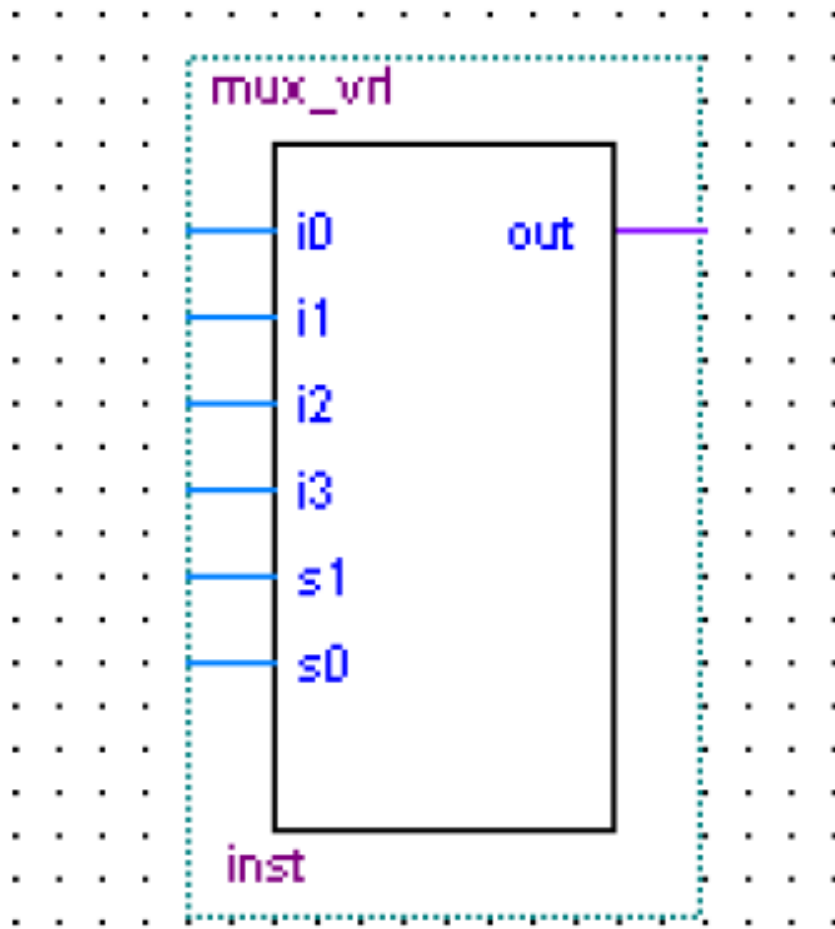

Figure 3.3: Auto-generated mux_vr1 symbol block.
3. Generate a reusable symbol from the file via **File** → **Create/Update** → **Create Symbol Files for Current File**. The resulting block is shown in Figure 3.3.